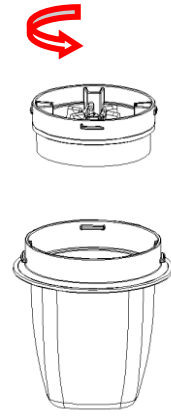

Fig.5B
- 5) Assembly the chopper components-Place the grinding cup seal ring into chopping cutter head components, and then buckle into the grinding cup. Please turn the cutter head components anticlockwise until tightly to ensure it assembly in place(See Fig.5B).